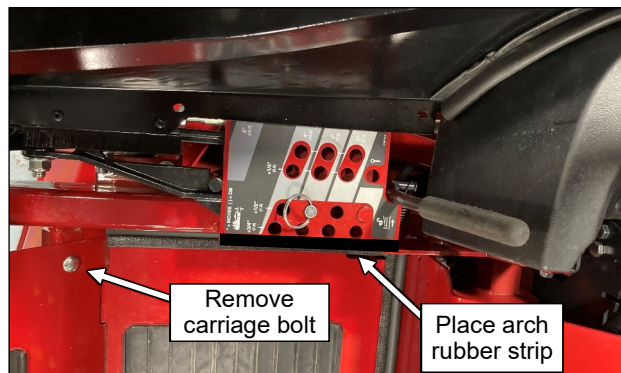

Fig. 10.1 (Deck control foam seal)
- 10.1 See fig. 10.1. Place the longer strip of self-adhesive arch foam (7" long) onto edge of the bend on the left side of the deck height adjustment pin box.